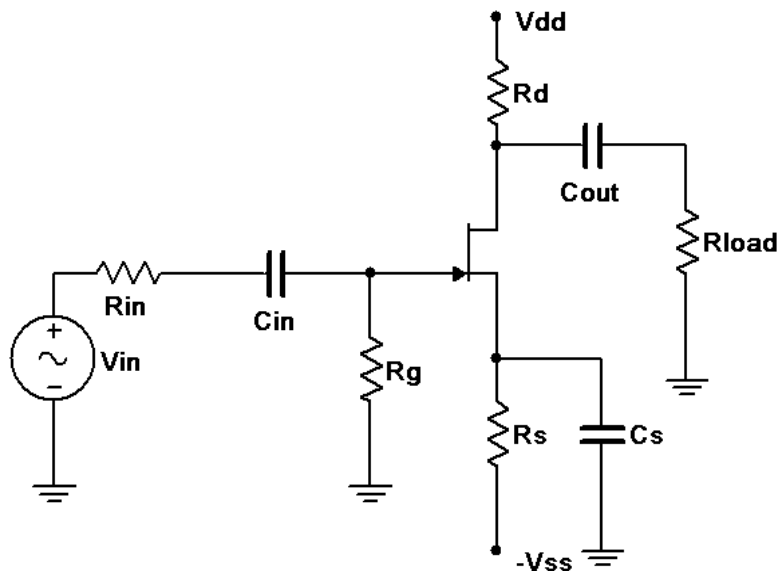

Figure 1
1. Consider the circuit of Figure 1 using $V_{dd} = 15$ volts, $V_{ss} = -3$ volts, $R_{in} = 33$ k Ω , $R_g = 330$ k Ω , $R_s = 4.7$ k Ω , $R_d = 4.7$ k Ω , $R_{load} = 22$ k Ω , $C_{in} = C_{out} = 10$ μ F and $C_s = 470$ μ F. Assuming $V_{GS} = -2$ volts and $g_m = 2$ mS (4 mS if using the J112), determine the theoretical gain and input impedance of the circuit and record these in Table 1.
2. Build the circuit of Figure 1 using $V_{dd} = 15$ volts, $V_{ss} = -3$ volts, $R_{in} = 33$ k Ω , $R_g = 330$ k Ω , $R_s = 4.7$ k Ω , $R_d = 4.7$ k Ω , $R_{load} = 22$ k Ω , $C_{in} = C_{out} = 10$ μ F and $C_s = 470$ μ F. Set V_{in} to a 100 mV peak sine at 1 kHz. Measure the voltages at the gate and load, and record these in Table 1. Capture images of the input and gate voltages, and the gate and load voltages. Note whether or not the load is inverted compared to the gate signal.